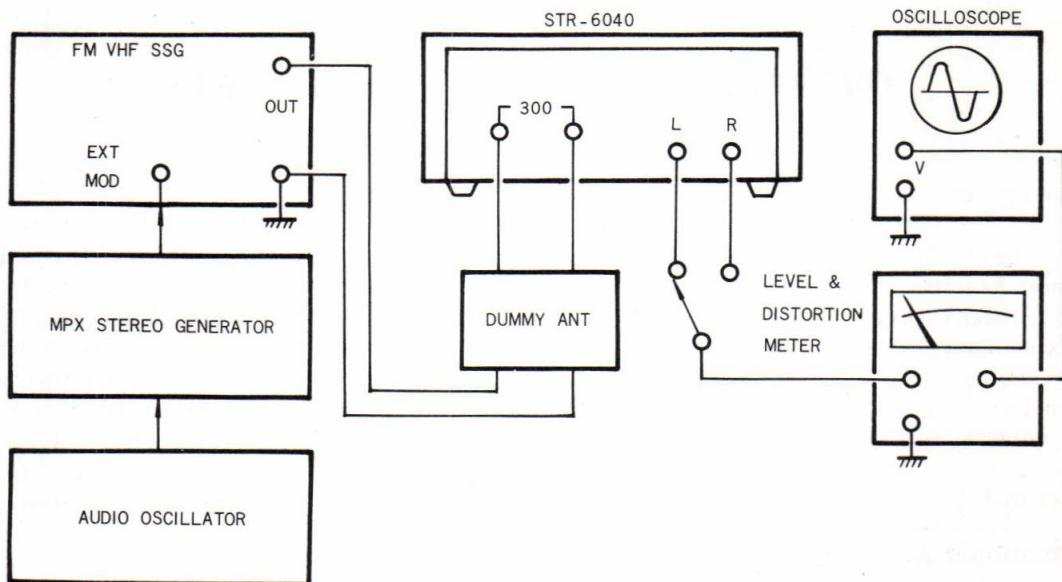

Fig. 4-3 Overall adjustment test set-up
1. Connect the equipment as shown in Fig. 4-3.
1. Connect the equipment as shown in Fig. 4-3, set the fm signal generator's controls as follows:
- (a) With the equipment connected as shown in Fig. 4-3, set the multiplex stereo generator controls as follows:
- With the equipment connected as shown in Fig. 4-3, set the signal generator and receiver's controls to the positions described in the Procedure 4-2 "FM STEREO DISTORTION."
- Connect the signal generator to the antenna terminals of the receiver using a dummy antenna. See Fig. 4-3.